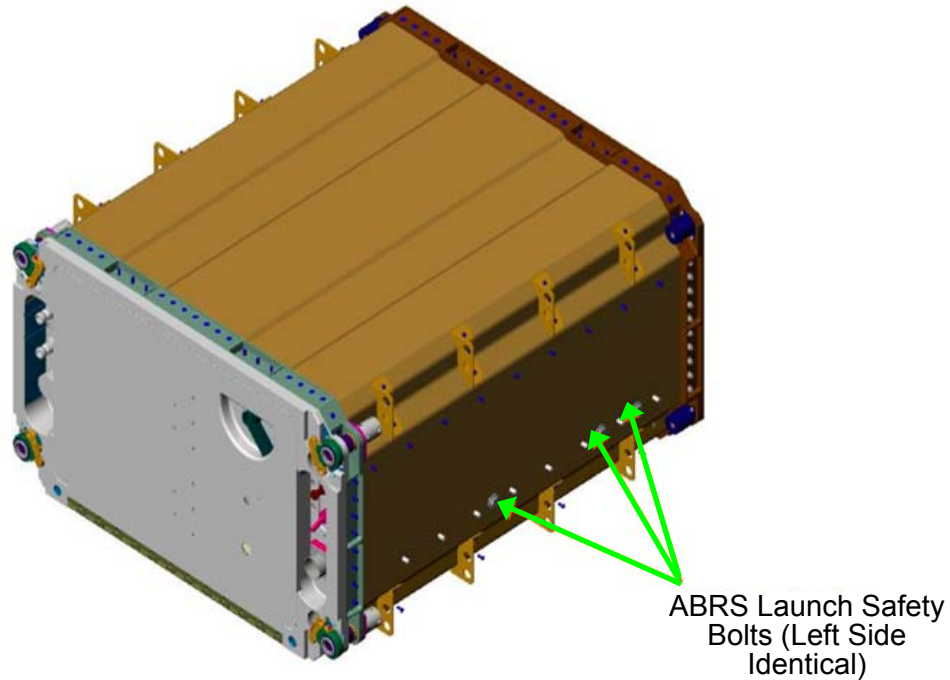

Figure 4.- ABRS Launch Safety Bolts.
- 2.3 Remove Launch Safety Bolts (six) three from each side, roll up in gray tape and place in trash (3/8" Socket, 1/4" Drive, Ratchet 1/4" Drive). Refer to Figure 4.